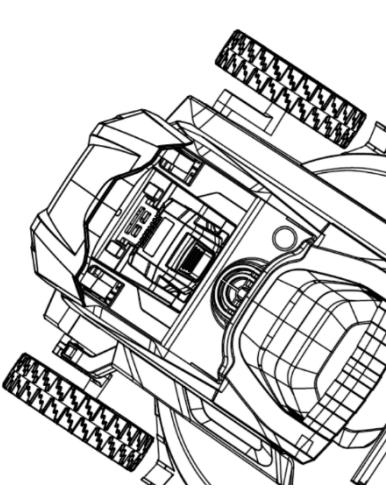
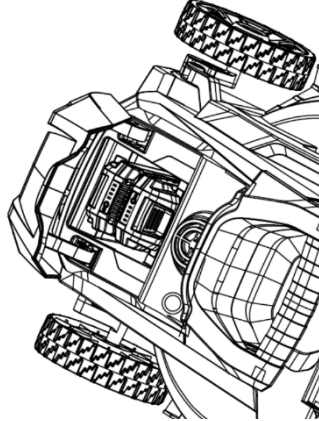

Fig.5A (40v Battery)
Fig. 5B (Twin 20v batteries)
2. Insert the battery pack into the battery holder. (Fig. 5A/ Fig. 5B)